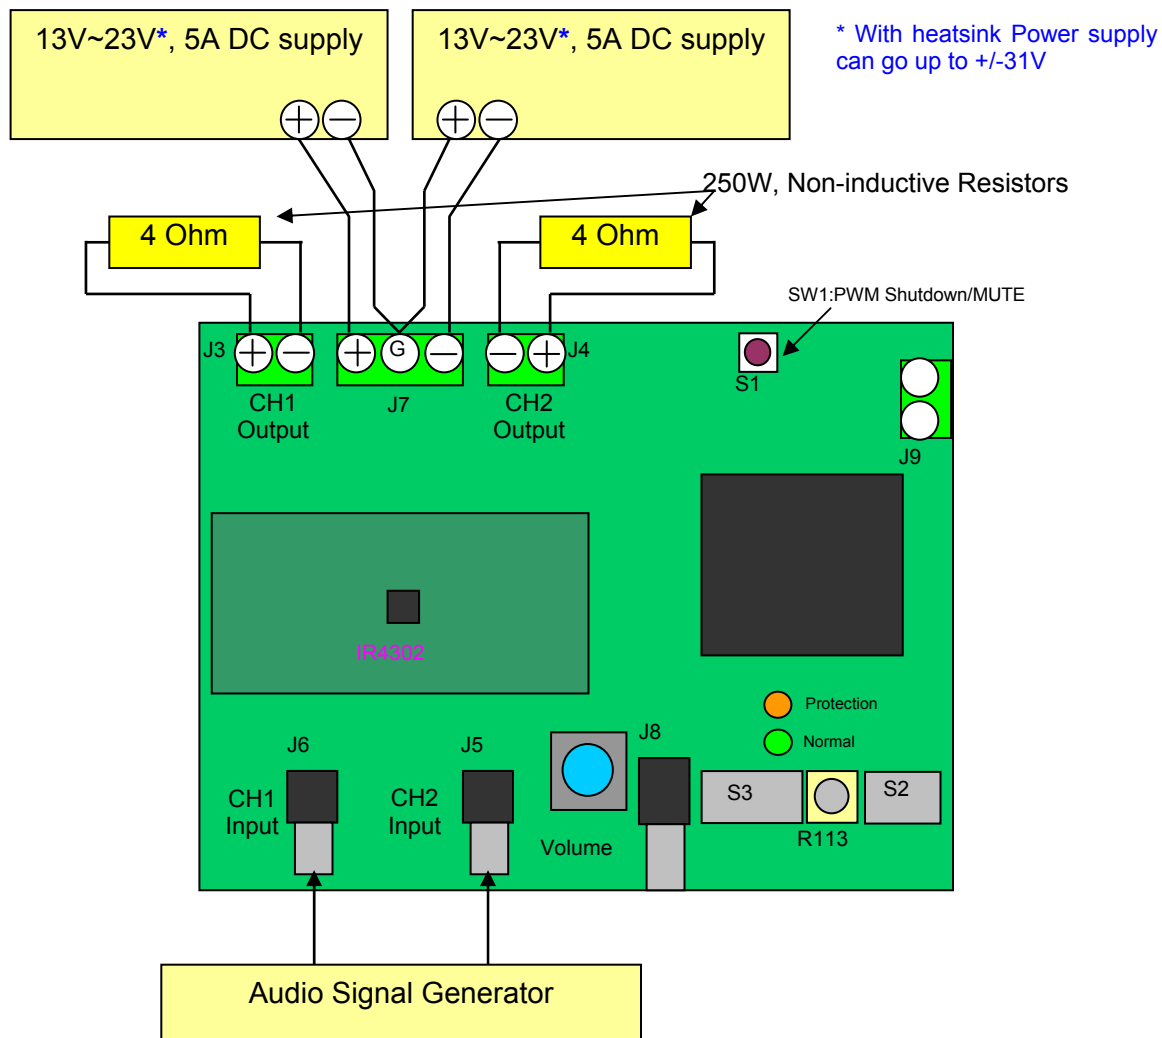

Figure 1 Typical Test Setup
1. Connect 4 $\Omega$ -250 W dummy loads to output connectors (J3 and J4 as shown on Figure 1) and parallel it with input of Audio Precision analyzer (AP).
6. Connect the dual power supply to J7. as shown on Figure 1